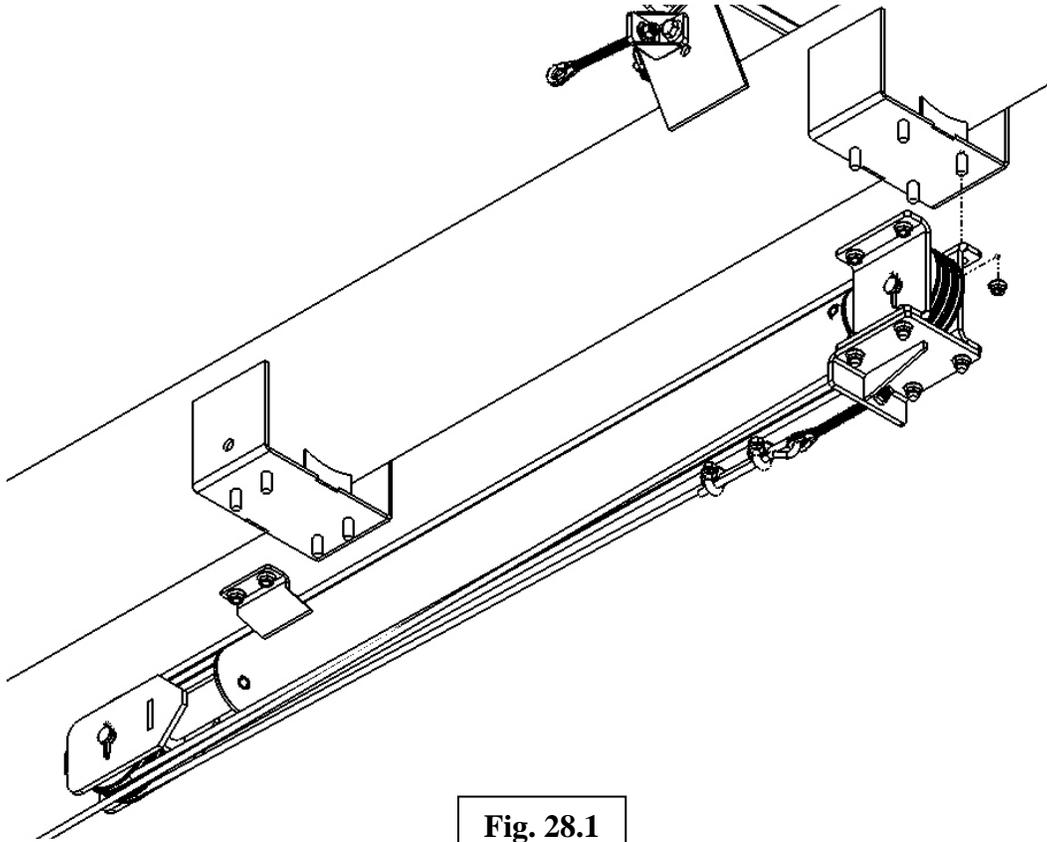

Fig. 28.1
Next, attach the cylinder assembly to the cylinder mount brackets on the first tube as shown in Fig. 28.1. Secure the cylinder with a total of (8) 1/2" x 1-1/2" hex flange bolts & flange nuts.